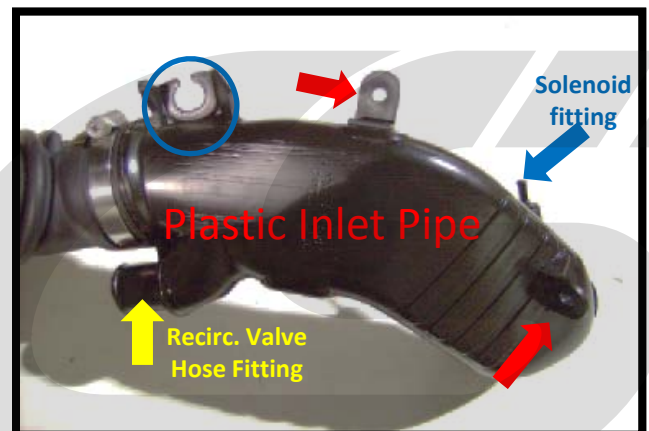
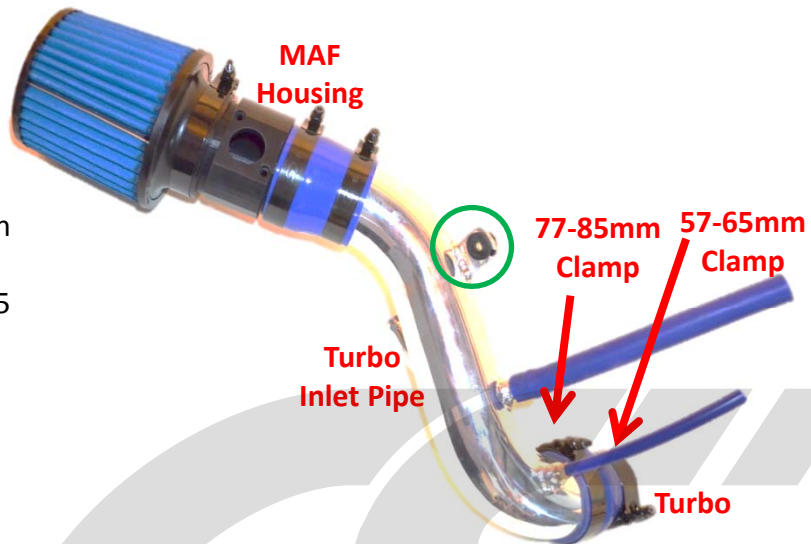
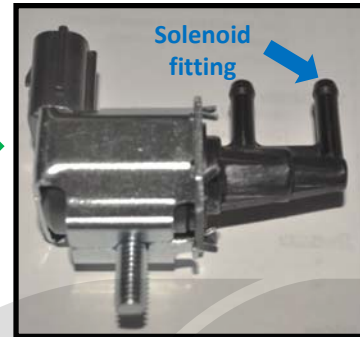

Figure 3b
Figure 4a
Figure 5d
- b) Remove the 10mm nut that holds the stock turbo inlet pipe in place (blue circle in Figure 3b).
- c) Remove the two wiring harness clips (red arrows in Figure 3b) located on the stock turbo inlet pipe.
- a) Assemble the turbo inlet pipe. Attach the 2.25" to 3.0" silicone reducer onto the turbo side of the inlet pipe. Place the two clamps (77-85 and 57-65) onto the reducer and lightly tighten the 77-85 clamp (shown in Figure 4a). Leave the smallest 57-65 clamp loose.
- b) Remove the rubber mounting grommet and washer from the factory turbo inlet pipe and install it on the CorkSport TIP (circled in blue in Figure 3b and green on CorkSport TIP in Figure 4a).
- b) **Remove the 10mm nut that holds the stock turbo inlet pipe in place (blue circle in Figure 3b).**
- c) **Remove the two wiring harness clips (red arrows in Figure 3b) located on the stock turbo inlet pipe.**
- d) **Using needle nose pliers, remove the hose from solenoid fitting on the stock turbo inlet pipe and the boost control solenoid (see Figure 5d on next page and identified in Figure 3b by blue arrow).**
a) **Assemble the turbo inlet pipe** (shown w/ the MAF housing and filter attached in Figure 4a, you will attach the MAF housing and filter later. Attach the 2.25" to 3.0" silicone reducer onto the turbo side of the inlet pipe. Place the two clamps (77-85 and 57-65) onto the reducer and lightly tighten the 77-85 clamp (shown in Figure 4a). Leave the smallest 57-65 clamp loose (Do not attach the MAF housing and air filter at this time).
b) **Remove the rubber mounting grommet and washer from the factory turbo inlet pipe and install it on the CorkSport TIP** (circled in blue in Figure 3b and green on CorkSport TIP in Figure 4a).
Be very careful to not break the nipple off the boost control solenoid (Figure 5d).